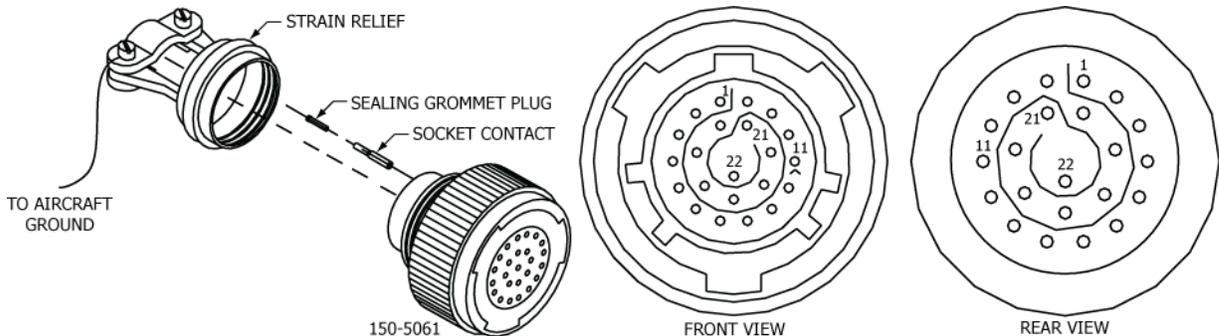

Figure 21 Harness ELT 22-Pin Plug Arrangement
- 1) Refer to Figure 21 below.